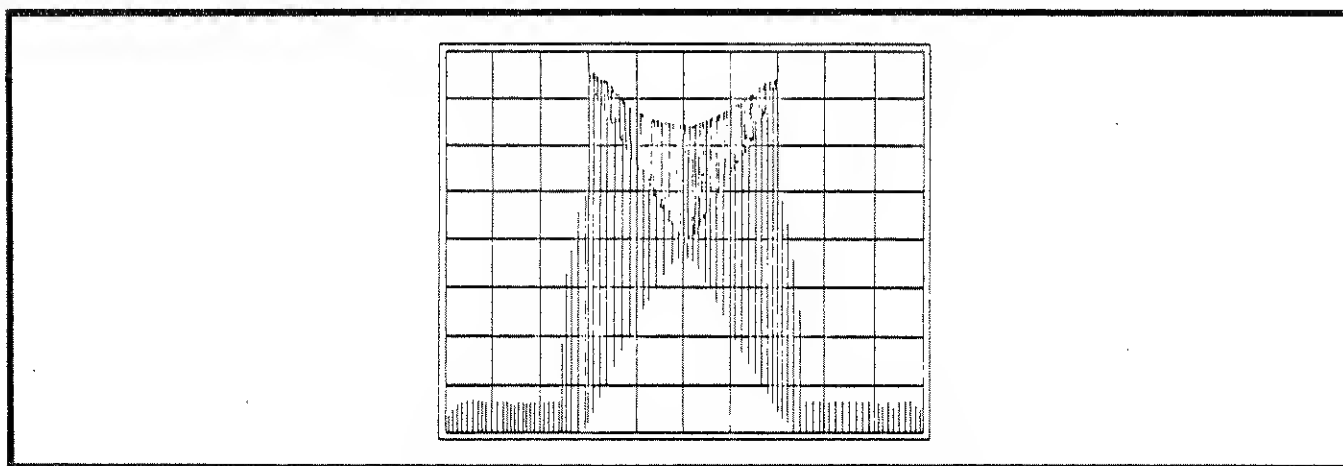

Fig 3.2 Spectrum Analyzer Display
3.6.1.10 Set the 9087 output level to 0 dBm, frequency to 650 MHz, and FM to 100 kHz peak deviation and 1 kHz rate (INT 1k). Set the spectrum analyzer to 650 MHz centre frequency, 50 kHz span/division and a 0dBm reference level. The analyzer display should be similar to Figure 3.2.